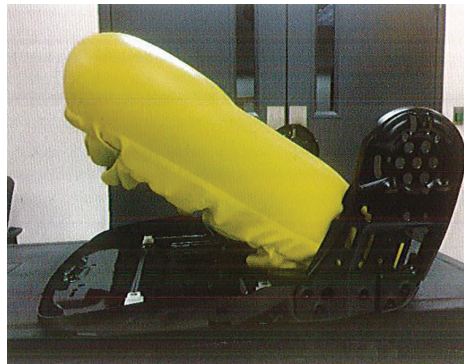

Figure 3
2. Push the seat cushion onto the steel seat pan at an angle (see Fig. 3).